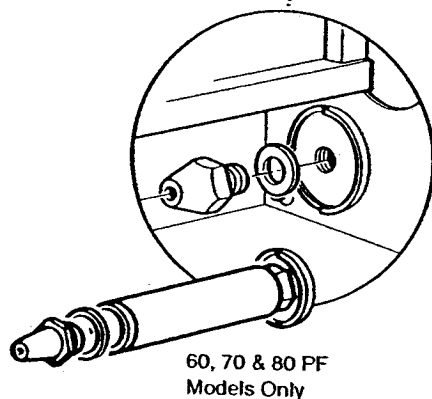

Fig. 95
1. Remove the injector which is screwed into the burner feed manifold (Fig. 95).